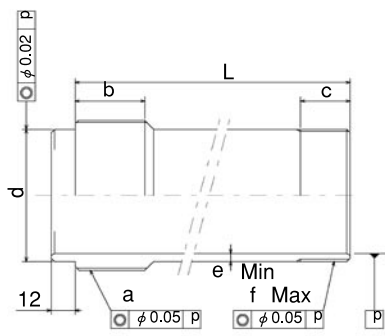

Fig. 12
The dimension L in Fig. 12 is determined from the distance A between the cylinder adapter and the back plate.
- Keep the dimension e and the dimension f in Fig. 12 for the draw pipe and a material with the tensile strength 380MPa (38kgf/mm²) or more must be used.